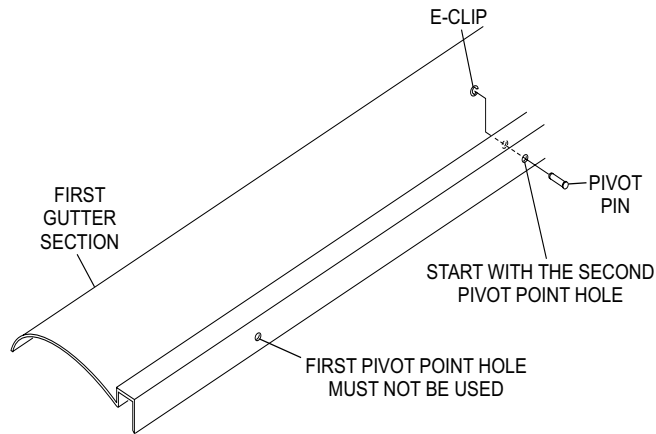

Figure 8
9. Turn the gutter over and remove all the e-clips and pins from the gutter. Set aside for reinstallation in the next step. Refer to Figure 8.